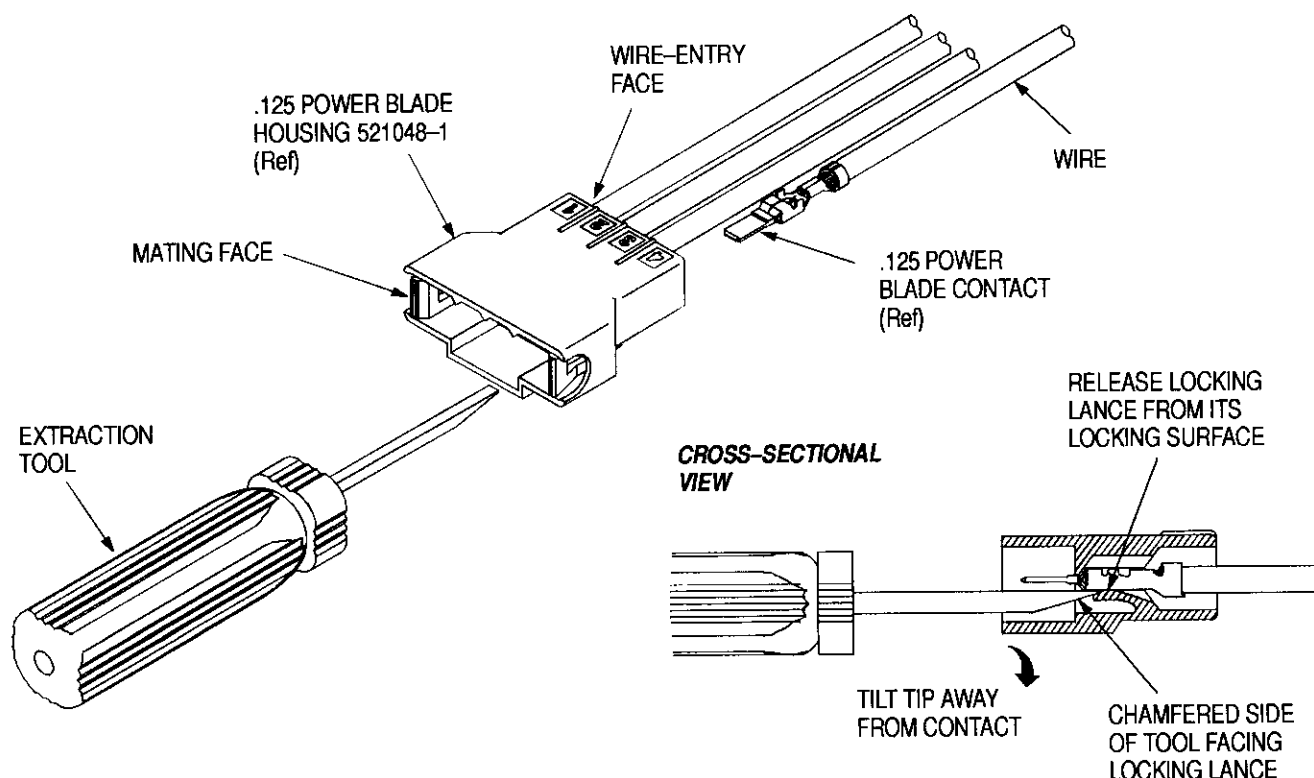

Figure 2
2. Hold the mating face of the housing toward you and align the tool tip with the appropriate housing cavity. See Figure 2. The tool tip must be positioned so that the *chamfered* side of the tip is facing the locking lance (inside the cavity). See cross-sectional view in Figure 2.
4. Push gently on the tool and tilt the tip *away* from the contact or toward the locking lance to release the locking lance from its locking surface. Refer to cross-sectional view in Figure 2.